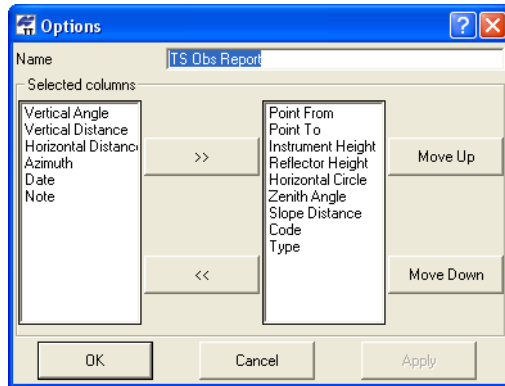

Figure 7-35. Item Options – TS Obs Report
- TS Obs Report – edit the name, select parameters to include or exclude using the move right/move left buttons, order the display of parameters using the Move Up/Move Down buttons, and click **OK** (Figure 7-35).